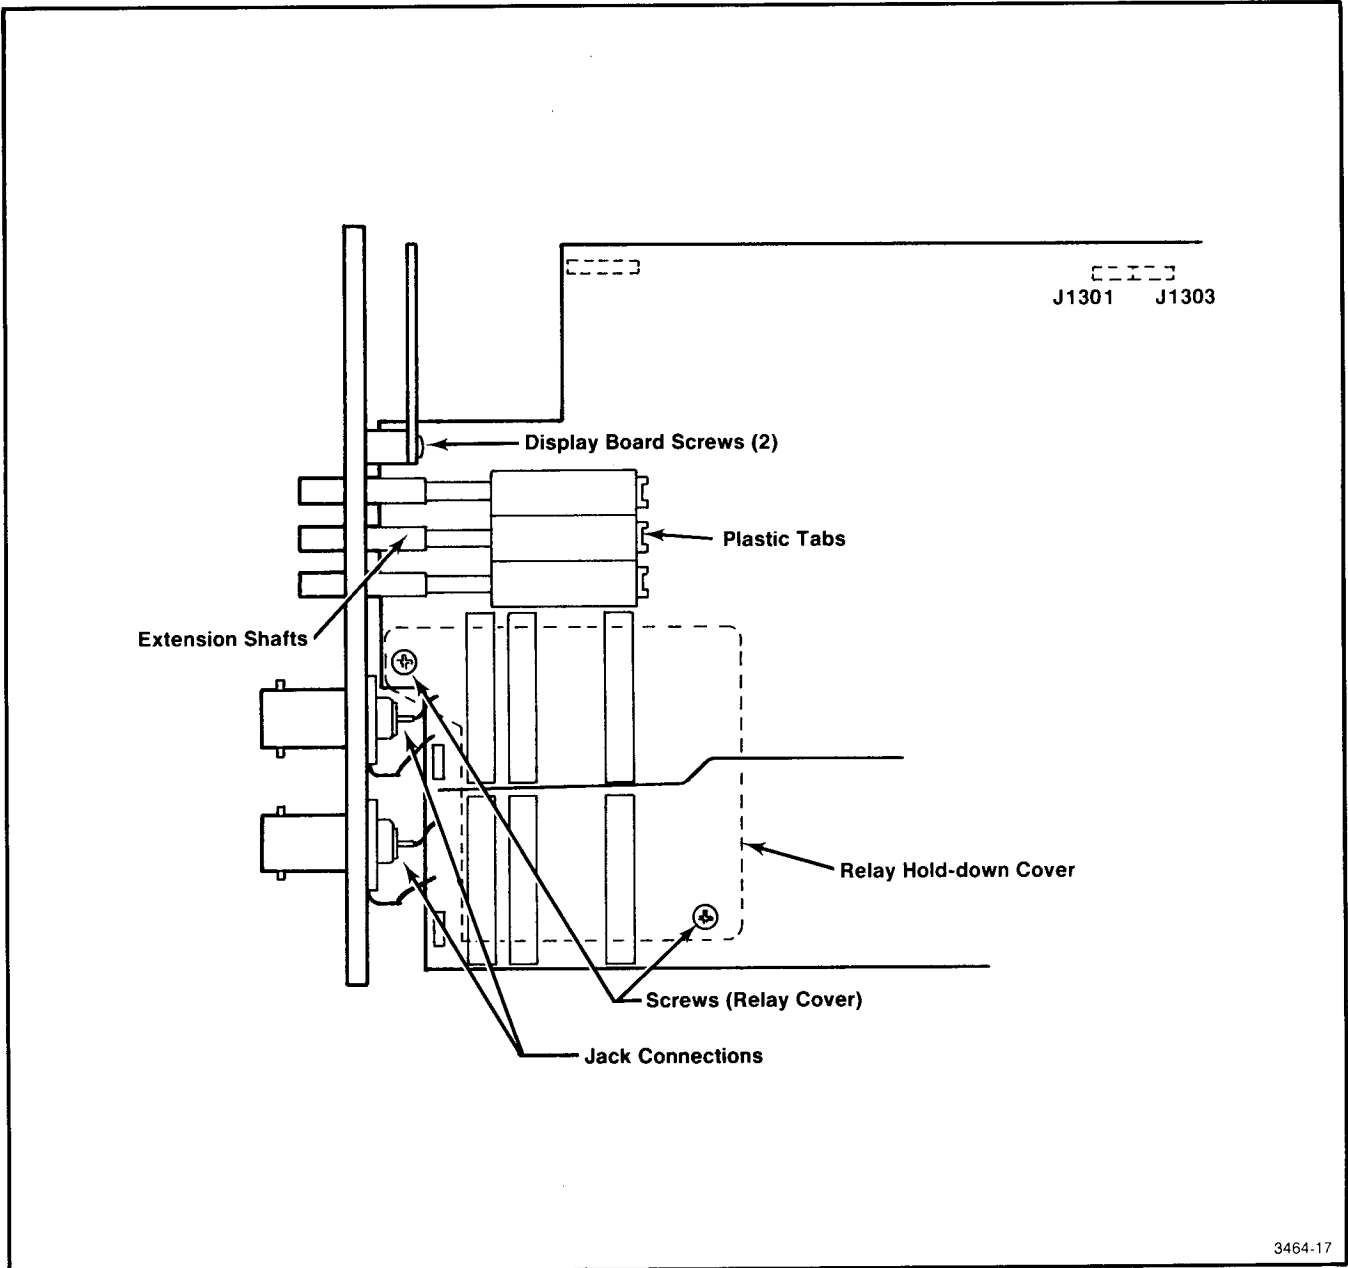

Fig. 5-1. Partial right view of instrument with cover removed (pictorial).
3. Remove the relay hold-down cover by removing the two screws which secure the cover to the analog board. (See Fig. 5-1.) Pull the cover away.
4. Remove the front cover by unsoldering the four analog board connections from the front panel input connectors. (See Fig. 5-1.) Then remove the front panel display lens by releasing the two plastic tabs (as seen from the top front panel) that secure the lens to the front panel. Be careful not to overstress the plastic tabs. The lens rotates out from the top. With lens removed, locate the two corner screws securing the display board and remove. Remove the four front panel corner screws, securing the panel to the top and bottom covers. Carefully pull the front panel cover away, clearing the panel pushbuttons and levers.
5. Remove the two connectors, from J1301 and J1303 located on the analog board (back side). (See Fig. 5-1.)
To remove the front panel pushbutton switches, refer to Fig. 5-1. Pull to remove the extension shafts. Carefully bend the plastic tab back and raise the rear of the switch clear of the tab.